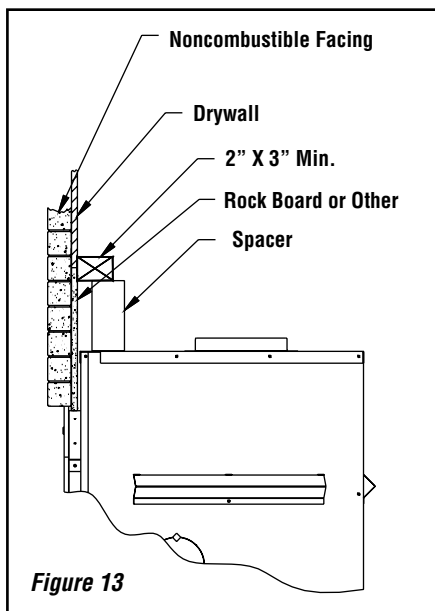

Figure 13
2. Non-combustible materials such as brick, stone or ceramic tile may project in front of and onto the fireplace facing (Figure 13).